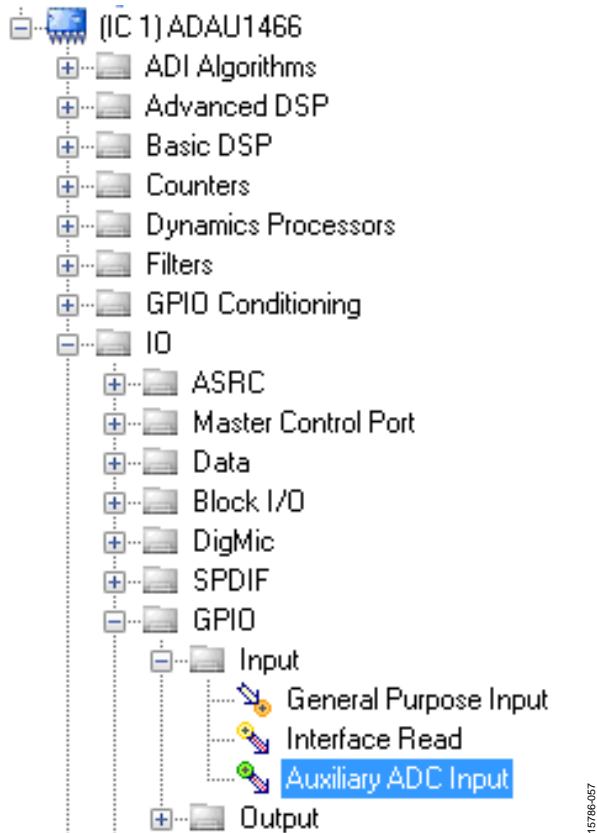

Figure 56. Auxiliary ADC Input Block Selection
- c. From the **IO > GPIO > Input** folder, click **Auxiliary ADC Input** (see Figure 56) and drag it into the project space to the right of the toolbox.